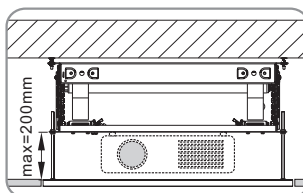

Figure22
14. Adjust the height of decorative ceiling plate depended on the actual ceiling height, and twist setscrew nut on the 200mm long screws assembled in the four corners of decorative ceiling plate. The max height is about 200mm(Figure 22). Please tightening screws to avoid looseness.